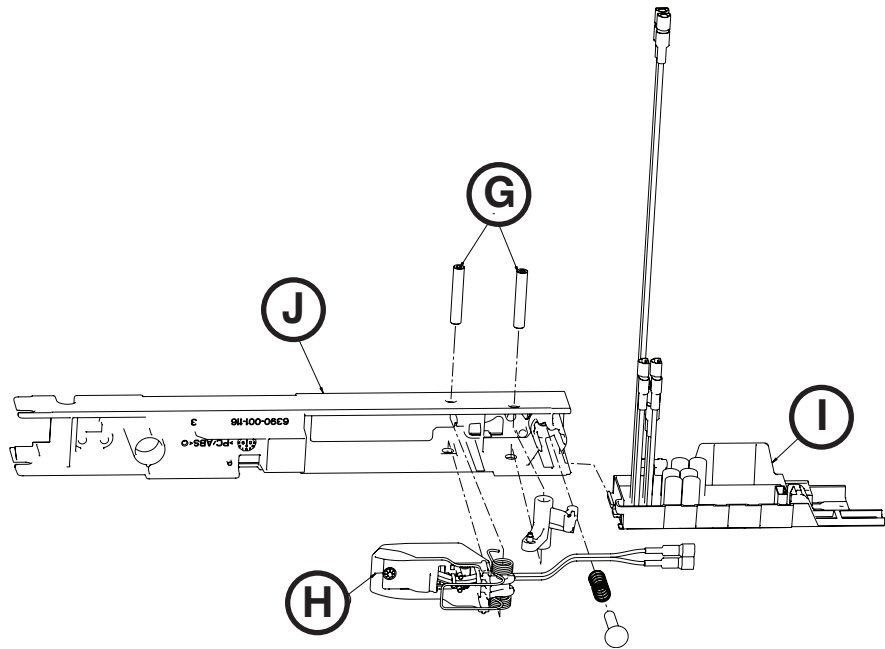

Figure 98
12. Remove the anchor pivot pin (G) that holds the anchor coil assembly (H) to the anchor housing (J) (Figure 98).
13. Unplug the coil wires from the inductive primary board (I) (Figure 98). Discard the anchor coil assembly.